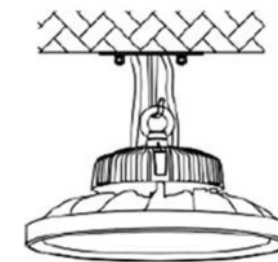

Figure 2
2. Use a chain, cable, mounting hook or other mounting hardware to suspend the luminaire. Make sure the mounting hardware is securely attached to a stationary structure, and is strong enough to safely suspend the luminaire. (See Figure 2)